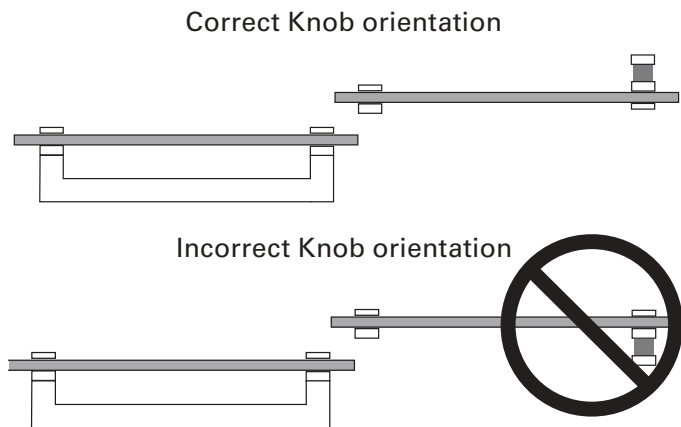

Figure 13
5. Repeat **Step B, 2-4** through the other hole of the Outside Door Panel to complete installation of the Towel Bar (See **Towel Bar Assembly, Figure 13**).
5. Tighten the Knob/Recessed Finger Pull. The Knob should face the inside of the shower (See **Figure 13**).
1. Ensure that the Knob is installed correctly (See **Figure 13**). Gently slide both Door Panels to the wall with the shower head. Now slide the Inside Door Panel 5-6" toward the opposite wall. This will give you clearance to perform the next step.
5. Tighten the End Cap/Recessed Finger Pull. The End Cap should face the outside of the shower (See **Figure 13**).